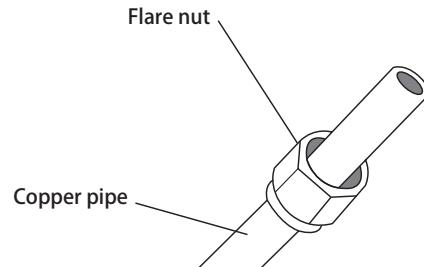

Fig. 8.5
- Place flare nuts on both ends of pipe. Make sure they are facing in the right direction, because you can't put them on or change their direction after flaring. See Fig. 8.5